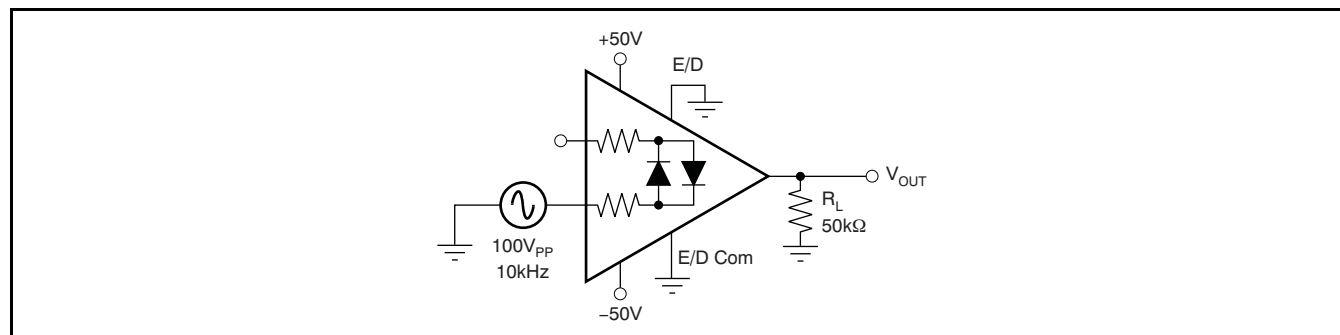

Figure 1. Feedthrough Capacitance Circuit
(11) Measured using Figure 1.
(12) 100k Ω pull-up resistor to (V+). E/D common to (V-). Status flag indicates an over temperature or over-current condition.
(13) See Typical Characteristic curves for current limit behavior.